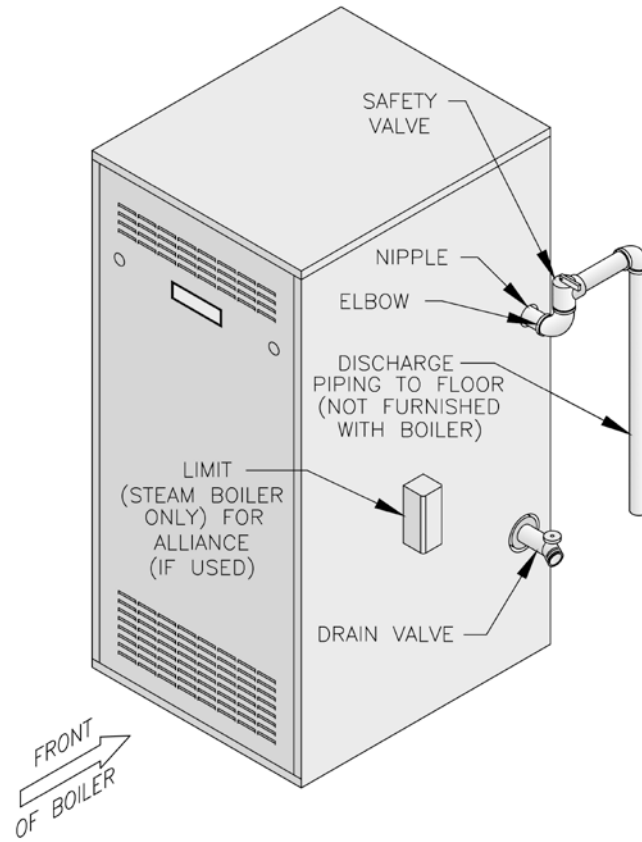

Figure 3: Trim Installation
- C.** Install Safety Valve in Tapping "E". See Figure 3. Use 3/4 NPT x 3" nipple and 3/4 NPT elbow provided. Safety Valve must be installed with spindle in vertical position.
- D.** Install Drain Valve in Tapping "D". See Figure 3. Use 2 NPT x 3/4 NPT bushing provided.
2. Limit. Install temperature limit control (Honeywell L4006A or equal) in Tapping "P". See Figure 3. Set at 180°F to prevent steam production during non-space heating periods.